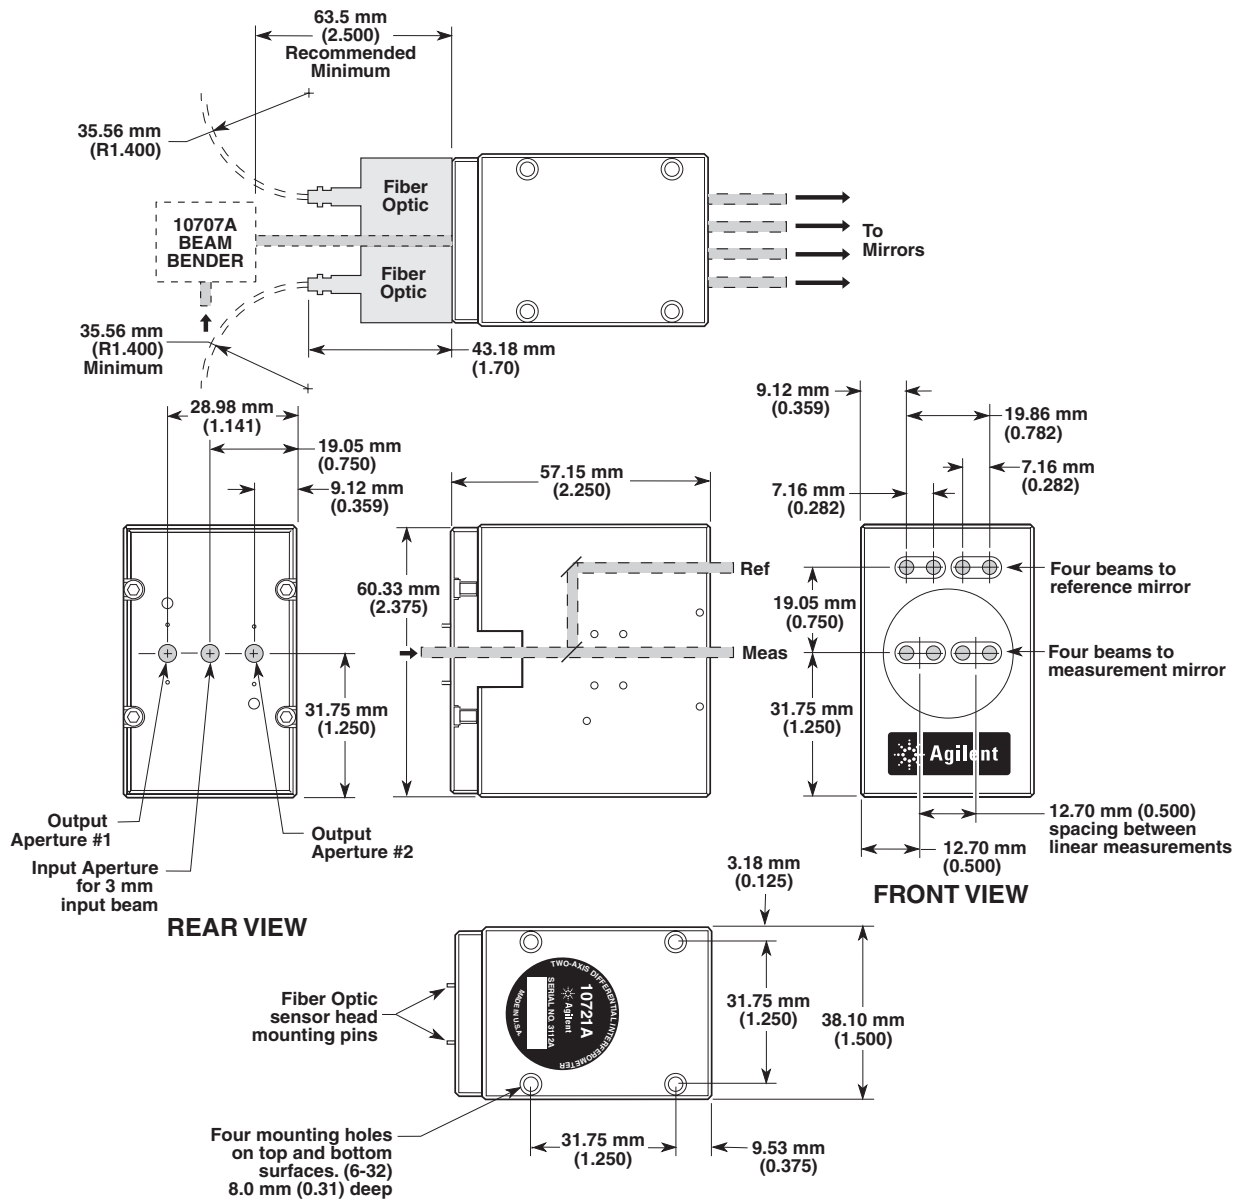

Figure 182 Agilent 10721A Two-Axis Differential Interferometer — dimensions
**Dimensions:** see Figure 182 (10721A), Figure 183 (10721A-C01)